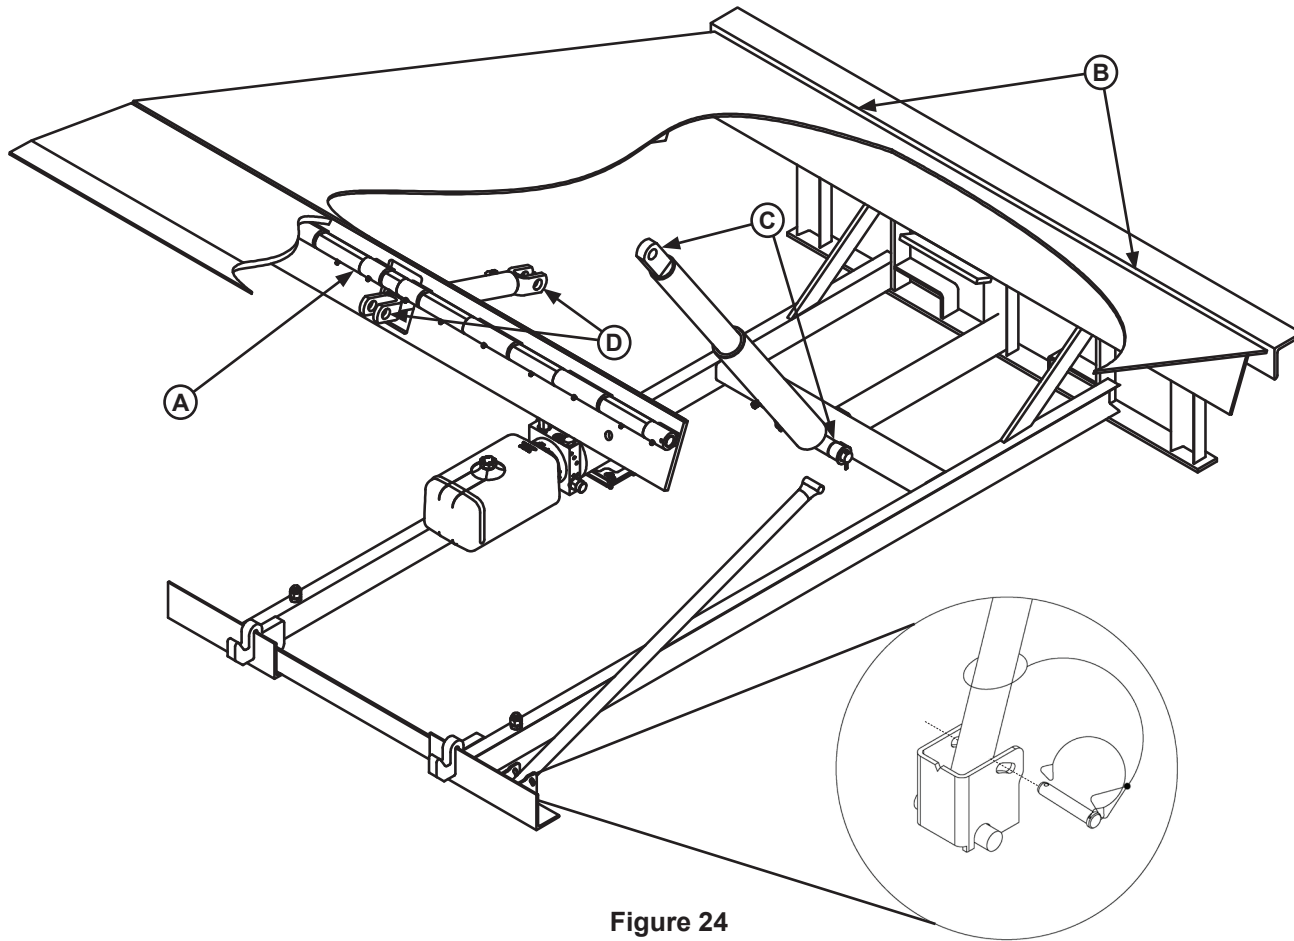

Figure 24
- Lubricate the following areas with light weight machine oil (see Figure 24):
- (A) — Lip hinge area unless equipped with grease fittings (apply oil to the top of the entire length of lip hinge when platform is at the full below-dock position and lip is folded)
- (B) — Platform rear hinge area (apply oil to top of all platform hinges when platform is at the full below-dock position)
- (C) — Platform cylinder pins
- (D) — Lip cylinder pins